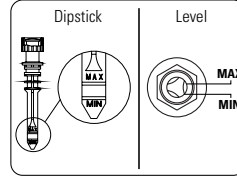

FIGURE 8.6
1. Check oil level (Figure 8.6) (For oiled compressors).
Oil (oiled compressors) (1) (Figure 8.6)